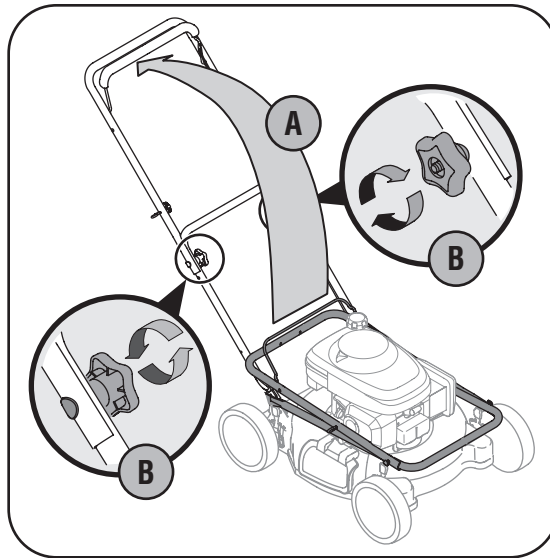

Figure 3-1
- a. Lift the upper handle up from folded position and pull it to extended position following the arrow in Figure 3-1. The handle should click into this position.